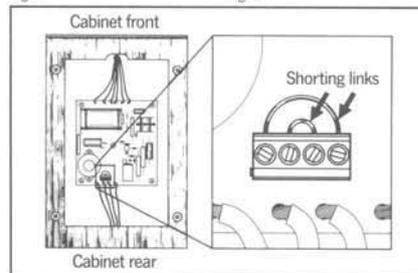

Fig. 3
- Remove the two shorting links (Fig. 3).